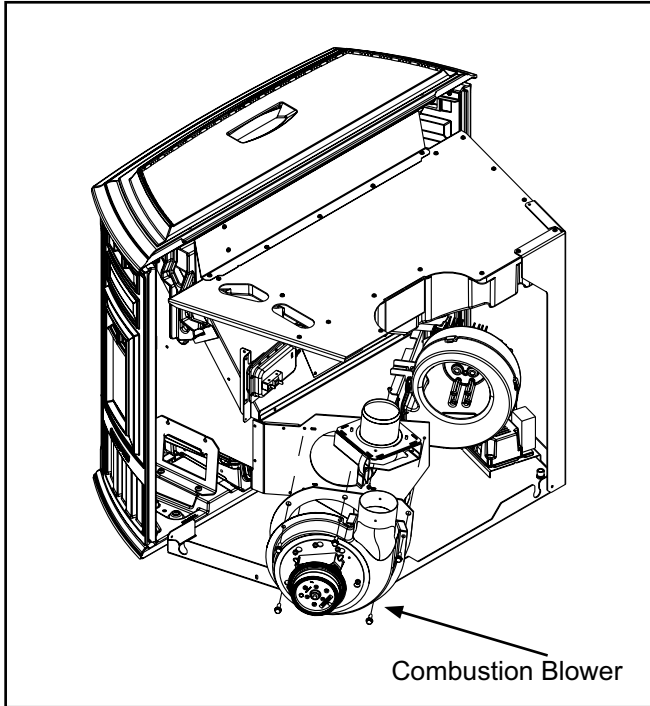

Figure 34.1
1. The combustion blower is mounted in the bottom right rear of the appliance. **Figure 34.1.**